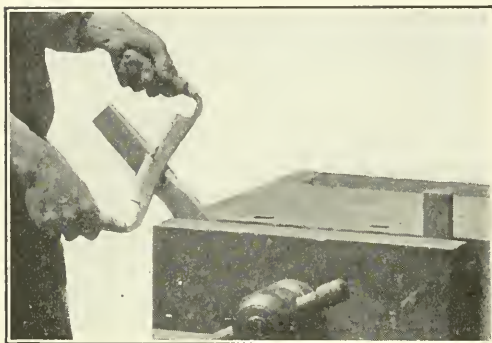

Fig. 163
53. The Draw-knife or Draw-shave is useful for slicing off large shavings and for trimming wood into odd shapes (Fig. 163). It cuts much like a knife or very wide chisel, and can be used with the